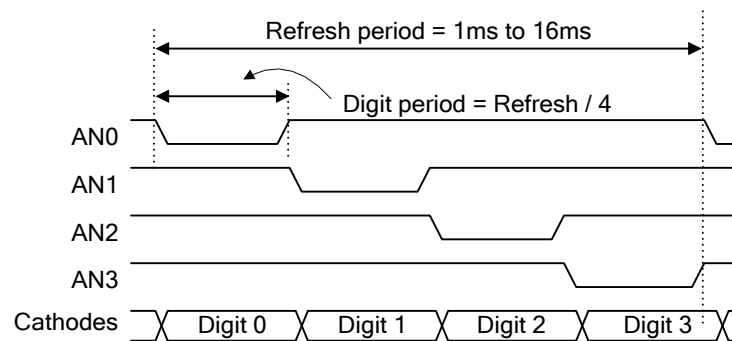

Figure 7.4. 4-digit scanning display controller timing diagram.
3. If AN0, CB, and CC are driven for 4ms, and then AN1, CA, CB, and CC are driven for 4ms in an endless succession, the display will show “71” in the first two digits. An example timing diagram for a four-digit controller is shown in Fig. 7.4.